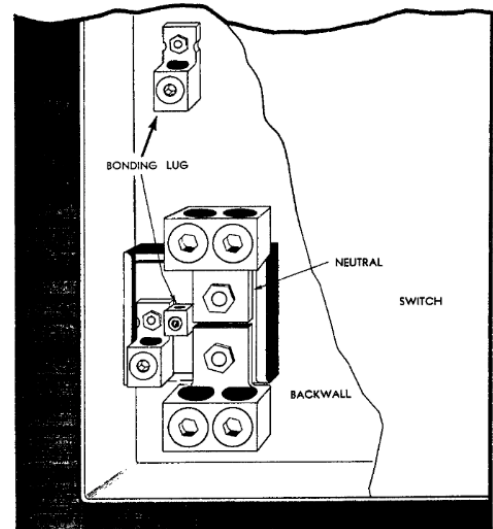

Figure 2. Typical installation of TNI66 Neutral Kit
4. Install the #4-600MCM line and load lugs using nuts and lock washers provided (see Fig. 2).